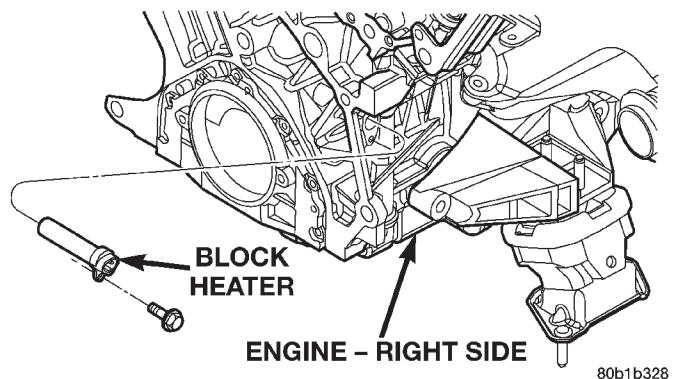

Fig. 23 Engine Block Heater
- (1) Raise vehicle on hoist.
- (2) Detach power cord plug from heater (Fig. 23).
- (3) Remove block heater attaching screw located below heater terminals.
- (4) Remove block heater from cylinder block.